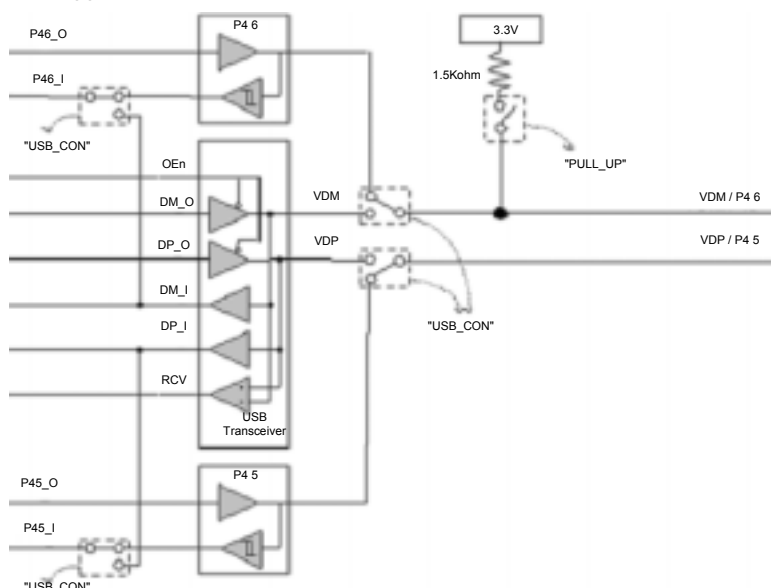

Figure 6-3. USB configuration
**Note 1:** Read Figure 6-3 for the general circuit diagram